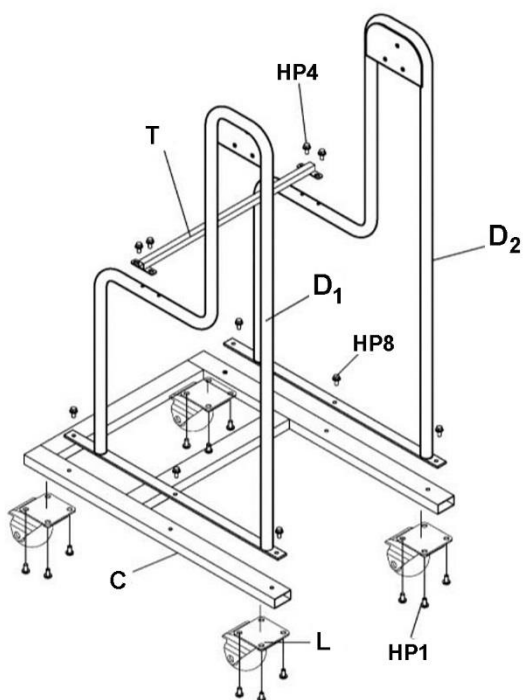

Figure 3
1. Install four casters (L) to base (C) with pan head screws (HP1). See Figure 3.
2. Install left and right stands (D1,D2) to base (C) with flange head screws (HP8).
3. Install stand support (T) to stands with flange head screws (HP4).